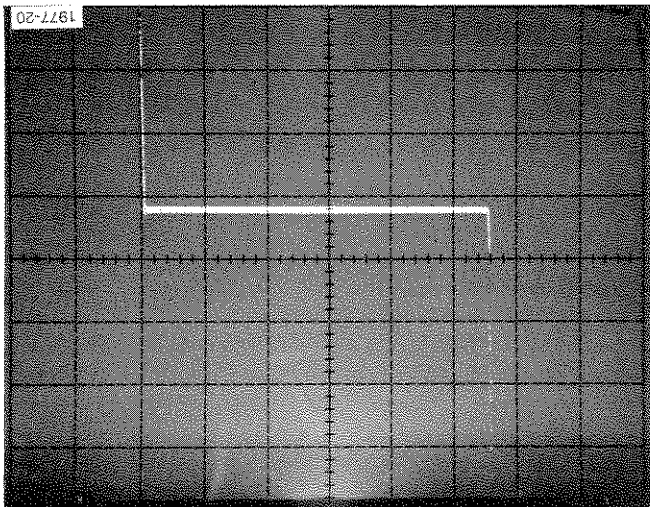

Fig. C-2. Display of input offset voltage.
- a. Turn the SWEEP AMPLITUDE control slowly clockwise until the display indicates that the power supply levels have been reached, i.e., the left edge of the display moves straight up the screen and the right edge moves straight down (see Fig. C-2).